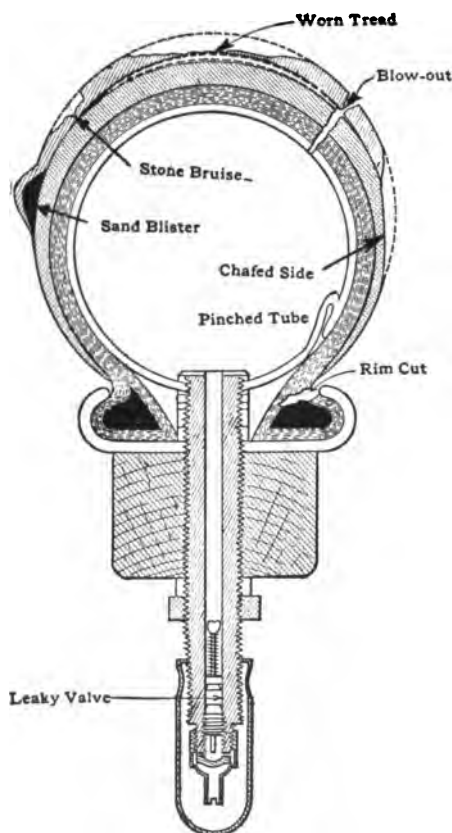
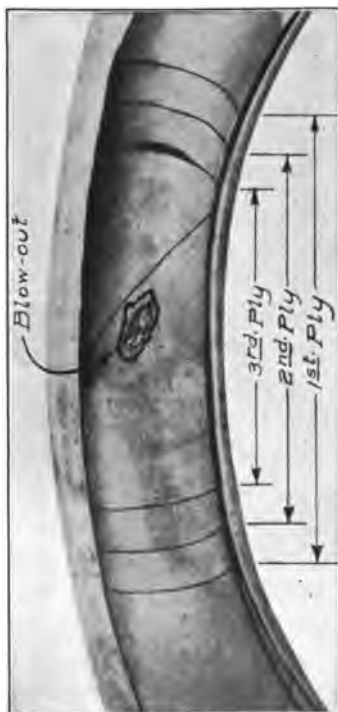

Fig. 120. Section of Tire, Showing Forms of Troubles
Fig. 121. Method of Preparing Layers of Fabric for Patching Blow-Outs—Inside Method
times very useful, as shown in Fig. 120. Here the pinched tube and blow-out are indicated, the results of these on the inner tube and also their method of repair having just been described. These troubles together with punctures, leaky valves, and porous rubber in the tubes about cover the extent of inner tube troubles. Because of their more complex construction, casings have more numerous and more varied troubles, which, consequently, are more difficult to repair. The more common casing troubles are blisters, blow-outs, rim cuts, and worn tread, the latter indicating the necessity for retreading. These will be described in order.
**Sand Blisters.** The sand blister shown on the side of the tire, Fig. 120, is brought about by a small hole such as an unfilled puncture hole, in combination with a portion of the tread coming loose on the casing near this hole. Particles of sand, road dust, dirt, etc., enter, or are forced into, this hole, and move along the opening provided by the loose tread. Soon this becomes continuous and the amount of dirt within the break forces the surface rubber out in the form of a round knob known as a sand blister. This is cured by cutting open the blister with a sharp knife on the side toward the rim, and picking out all dirt within. When the recess is thoroughly cleaned, the hole, and the radial hole in the tire tread nearby, should be filled with some form of self-curing rubber filler, a number of kinds of which are sold. The double benefit of this is to close the hole so that the trouble is not repeated, and to keep out moisture which would ultimately loosen the entire tread. A small stone bruise should be filled in the same manner.
*Inside Repair Methods.* Refer back to Fig. 120 for the general tire construction, and to Fig. 121 for this particular case, the inside of the tire is held open by means of tire hooks and the inside fabric layers or plies removed for a liberal distance on each side of the opening. As shown in Fig. 121, a lesser amount of the second layer should be taken than of the first, and still less of the third and each subsequent one. On  $3\frac{1}{2}$ - and 4-inch tires it is not advisable to remove more than two plies; on  $4\frac{1}{2}$ -inch tires three as shown; and on the larger